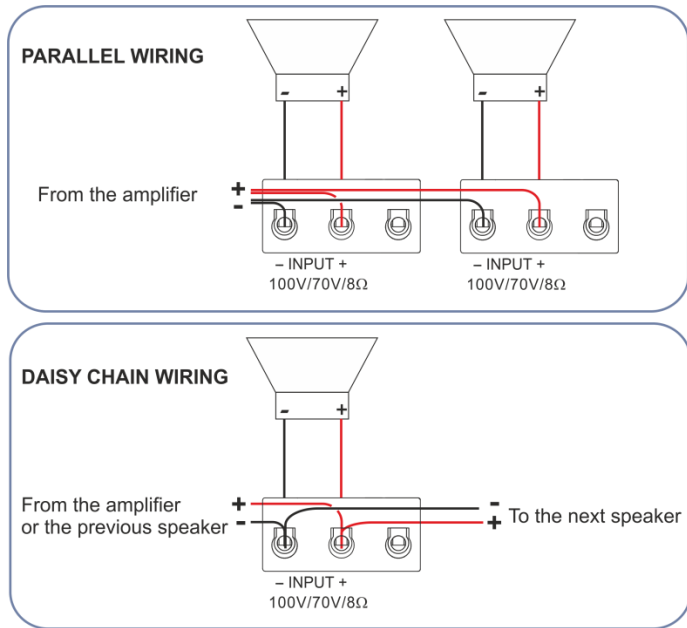

Figure 5: Galil 2-C Schematic Diagram
6. Connect the cables to the speaker (see Figure 5 and Figure 4). Connect the positive (+) red cable to the + terminal and connect the negative (-) black cable to the – terminal.
- **Wiring in parallel:** when one input connector is removed, subsequent speakers will remain connected (see Figure 5)
- **Daisy-chaining:** when one input connector is removed, subsequent speakers will be disconnected (see Figure 5)